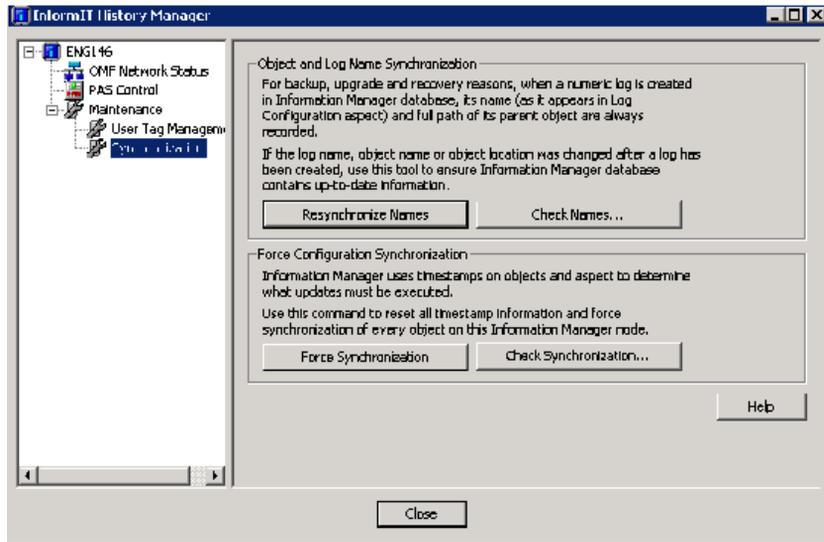

Figure 22. Inform IT Hlstory Manager
- Expand the Maintenance tree in the Preview Area and select Synchronization. The Inform IT History Manager shown in Figure 22 appears in the Preview Area.